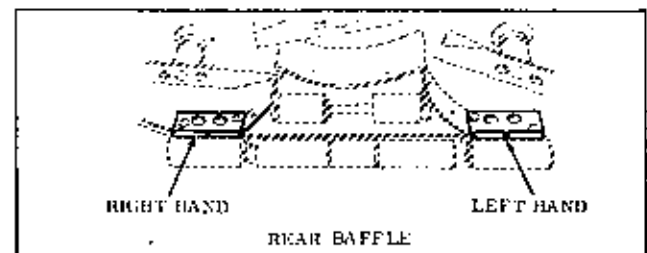

FIGURE 5
2. Install the Left Hand and Right Hand Rear Baffle Plates as shown in Figure 5. These baffles are each held in place by 2 carriage bolts, lockwashers, and hex nuts. Note that the lockwashers and nuts are on the exterior of mower housing.